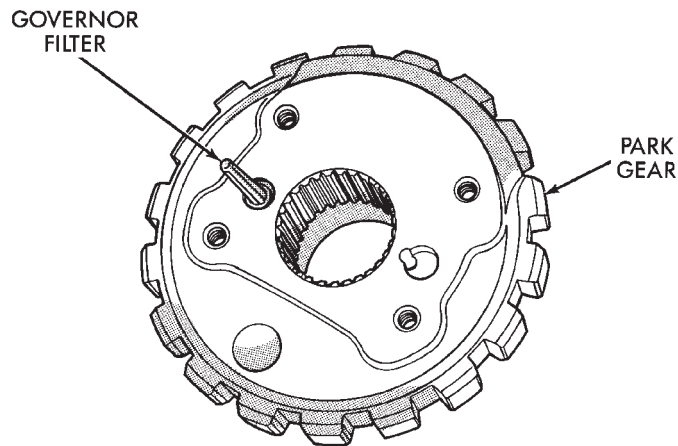

Fig. 16 Governor Filter Position
(1) Remove bolts attaching governor body to park gear; then separate body from gear.
(2) Remove cone shaped filter from park gear (Fig. 16).
(3) Insert filter screen in park gear. Note that gear has one filter bore that is concentric and one that has a notch in it. Filter goes in bore that is concentric as shown (Fig. 16).
(4) Position governor body on park gear. Be sure filter is properly aligned in body recess.
(5) Install governor body bolts. Do not fully tighten bolts at this time.